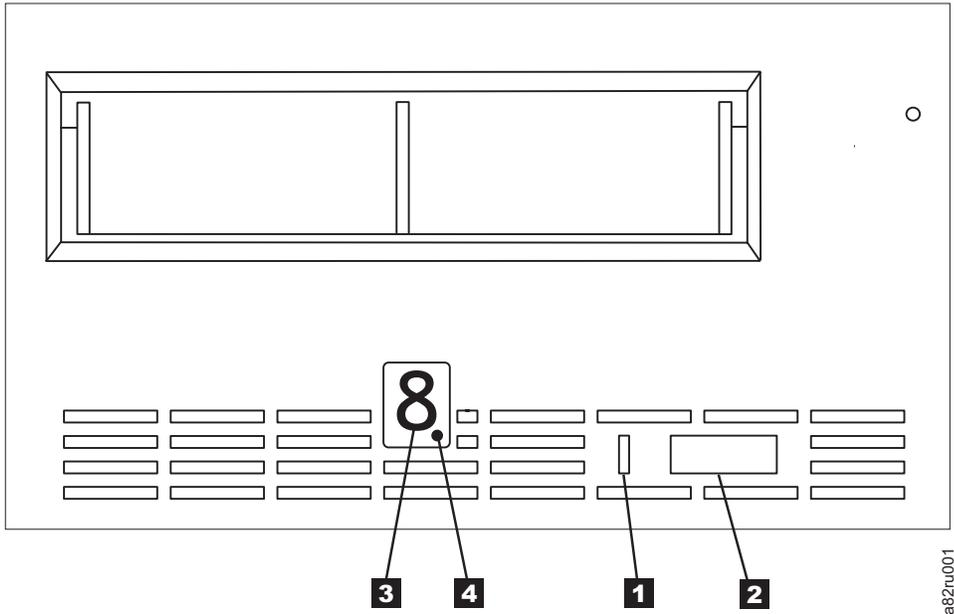

Figure 2. Front panel of the drive
Figure 2 shows the front panel of the drive.
3. Referring to Figure 2, find the ID number that you chose, then place jumpers on the connector pins as shown (use a pair of needle-nose pliers to connect the jumpers to the pins that are shaded).